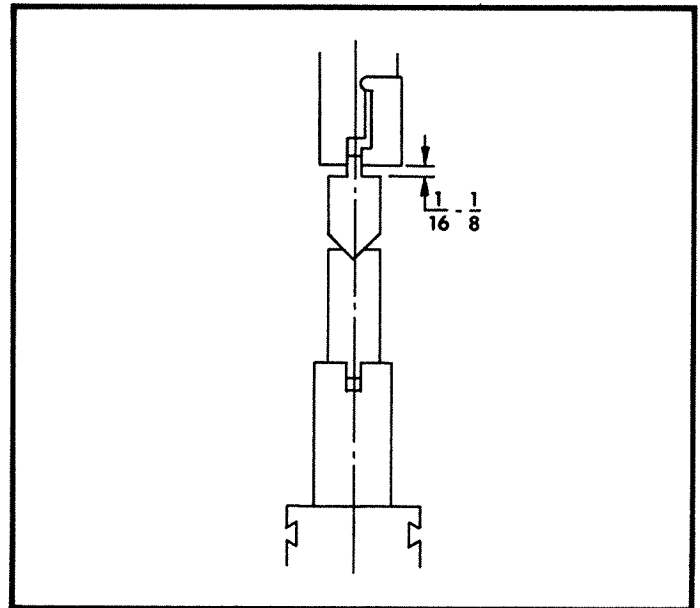

FIGURE 62
4. Loosen the ram die clamp nuts. Use the ram adjusting mechanism to raise the ram 1/16" to 1/8". This will keep the upper die trapped in the ram nose and the lower die. See Figure 62.